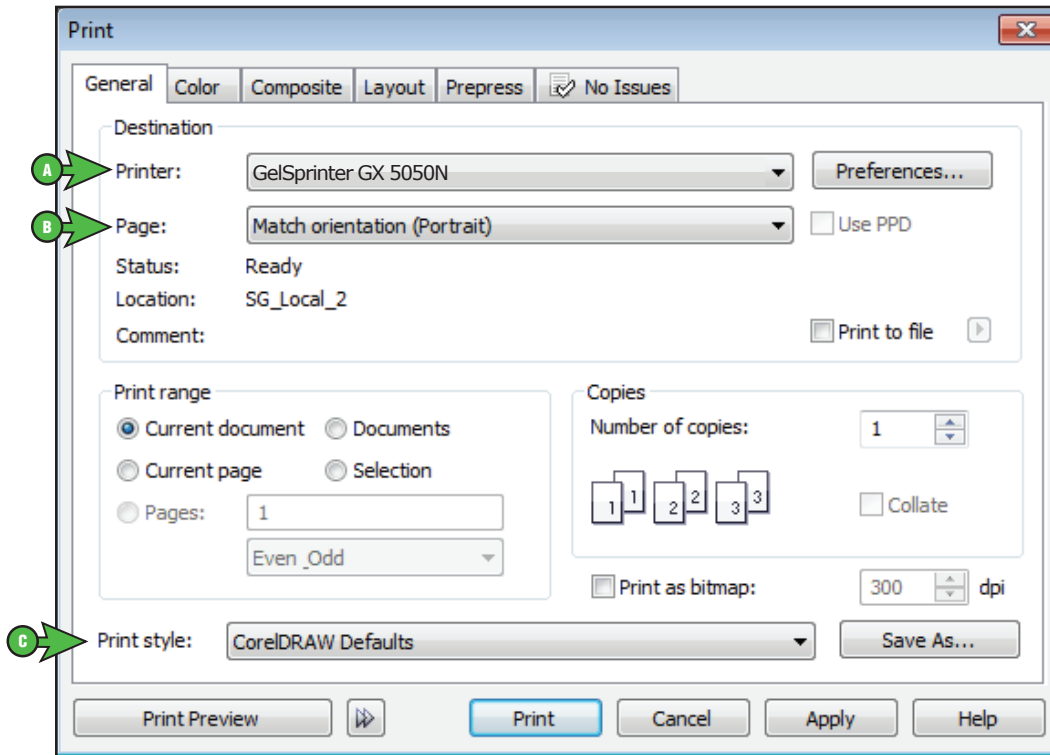

FIGURE 7
- 7.) Now that you have adjusted the Color Management settings, you are ready to print. Begin by opening an image in CoreIDRAW. In the Menu Bar, click File > Print (Ctrl + P). This will open the Print window. Match your settings to the ones shown below: (see FIGURE 7)